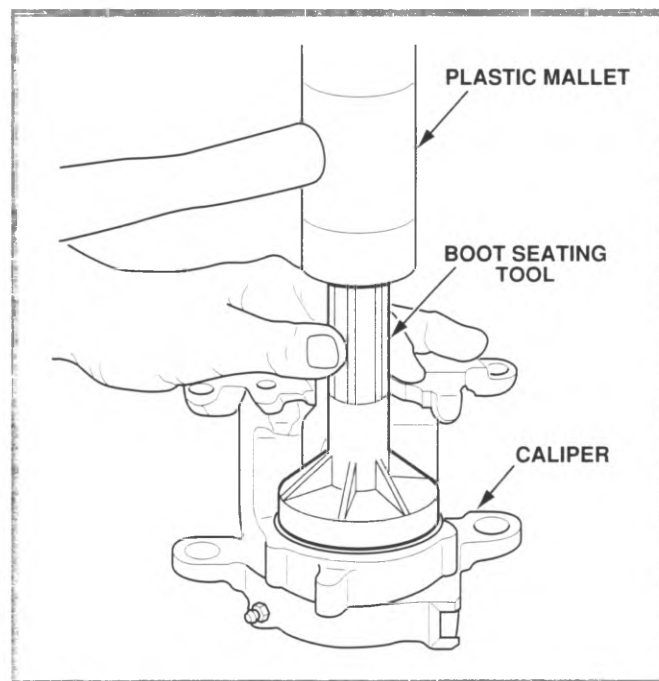

Figure 6-33, Seating Boot
16. Position the OD of the boot in the caliper counter bore and seat it with the boot seating tool (figure 6-33). On some applications it is necessary to install the boot into the caliper bore prior to installing the piston.